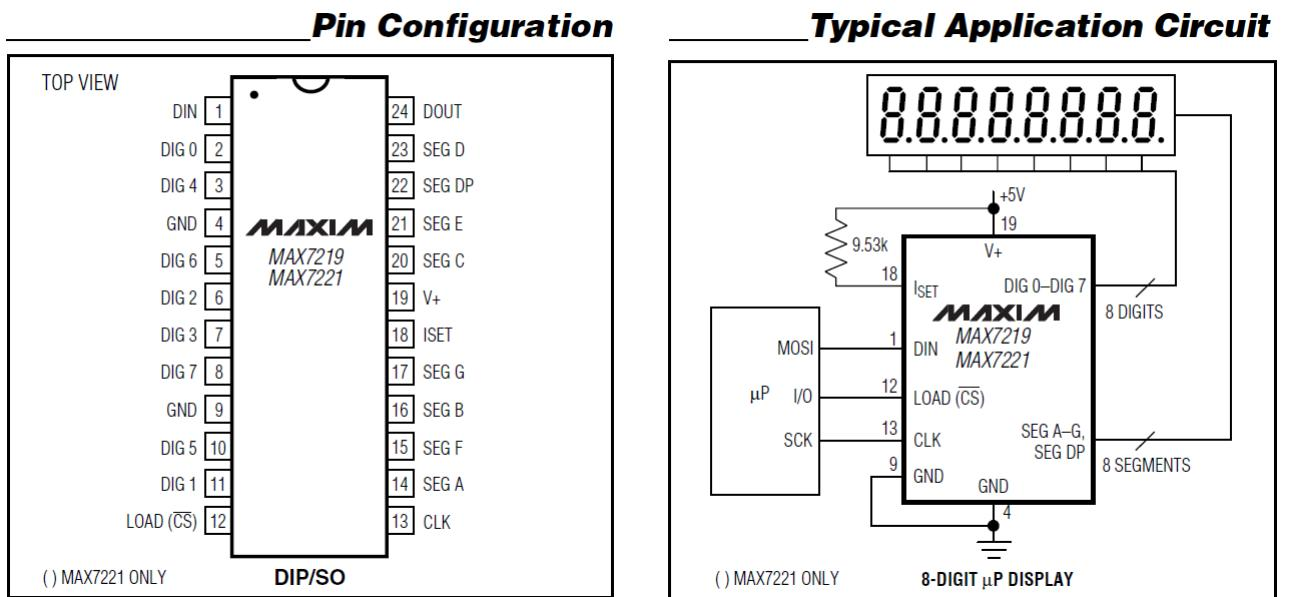

FIG. 1.3 : Matrix controlling
In this section, we need to generate the signals (DIN, CS and CLK) in order to send them to the matrix. In fig 1.3, we can see the PIN configuration of the MAX7219 and for
4. The spi_master file helps to control the channel between the DE1-SOC and the MAX. All the control process about master and slave communications, using a virtual clock, are defined in this code. In fig. 1.3, the DIN of the MAX is linked to the MOSI (Master out Slave in), the CS to I/O of the spi-driver and the clock of the MAX is linked with the internal clock of the spi-driver. It also use the state machine.